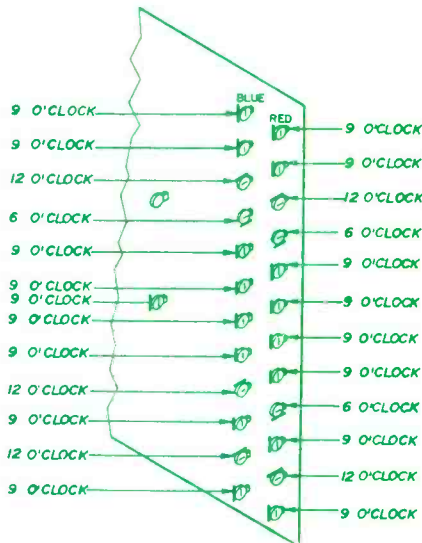

Figure 3. Before a complete dynamic convergence is begun, the controls should be preset as shown here.
- Preset the dynamic convergence controls according to Figure 3.